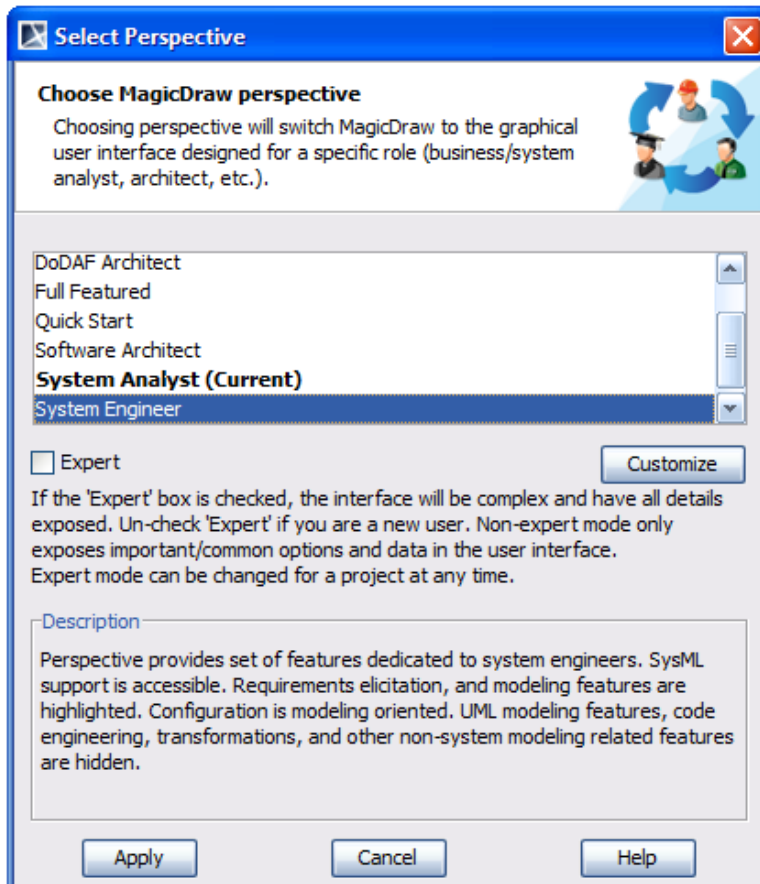

Figure 2 -- Select Perspectives Dialog
2. Select **System Engineer** from the **Select Perspectives** dialog and click **Apply** (Figure 2).